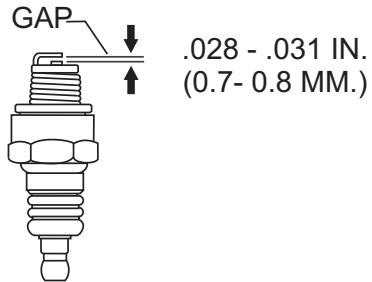

Figure 32. Spark Plug Gap
1. Remove and clean spark plug (Figure 32) with a wire brush if it is to be reused. Discard spark plug if the insulator is cracked or chipped.